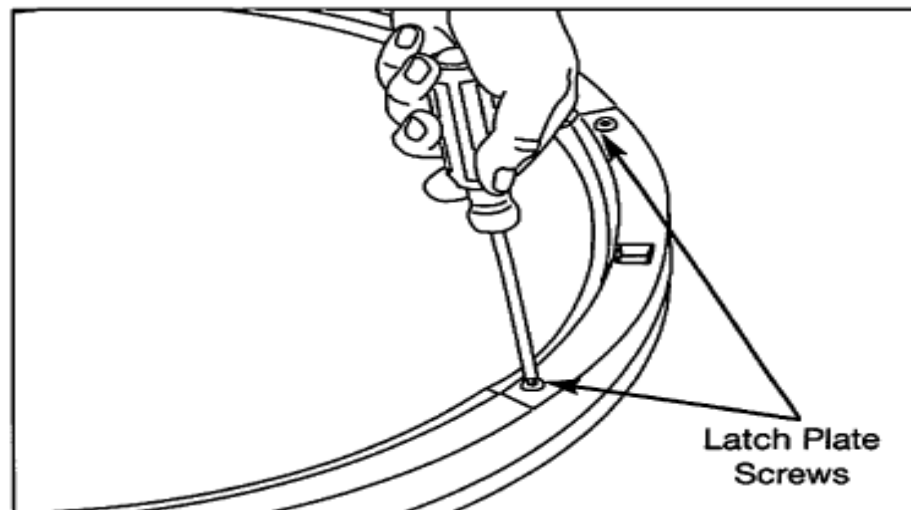

Figure 4-4.
1. Using a #2 square bit screwdriver, remove the two long, coarse thread, countersunk screws. (See Figure 4-4)
3. While supporting the weight of the door with both hands, separate the door from the hinge. (See Figure 4-4)